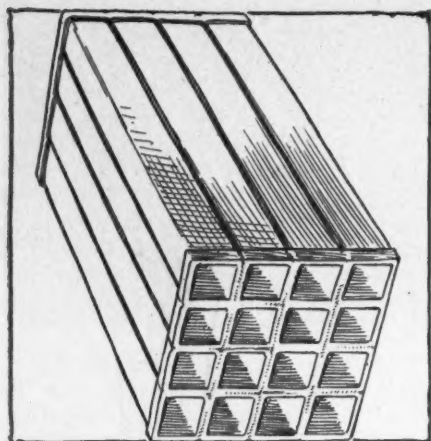
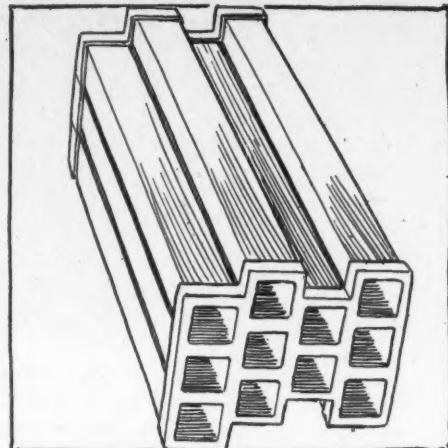
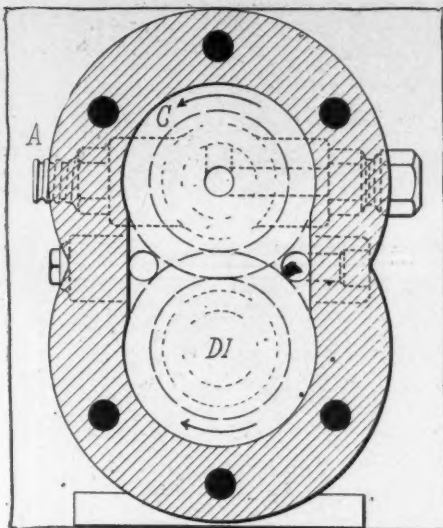

FIG. 7—LOCKPORT MERCEDES-STYLE RADIATOR
FIG. 9—LOCKPORT STAGGARD TYPE RADIATOR
FIG. 18—McCanna Distributing Gear Pump
**Fulton-Zinke-Hussey Parts Co.**—In addition to the general line of motor car and gas engine equipment handled by the Fulton-Zinke Co. in 1909, the Fulton-Zinke-Hussey Parts Co., known as the F-Z-H Parts Co., has taken on for the 1910 season the Lockport radiator, oilers and distributing gear pumps manufactured by the McCanna Mfg. Co., imported B. K. F. radial ball bearings, a full line of magnetos and Hussey lamp brackets. The Lockport radiators are of the genuine cellular or honeycomb type made in four distinct styles. Their important feature is their light weight and comparatively high cooling efficiency, brought about through the peculiar construction of the little square tubes employed. The construction of the old style Mercedes radiator manufactured by the Lockport company is illustrated in Fig. 7, and consists of a series of the square tubes assembled so that both the horizontal and vertical water spaces formed are in line. In the new Massive staggered type of radiator made by this company and shown in Fig. 9, it will be seen that there is a positive horizontal flow of water over the sides of the tubes as well as a vertical flow; and it is claimed that the increase in efficiency of the staggered over the Mercedes type of radiator is between 15 and 20 per cent. Both the staggered and the Mercedes type are made in two styles, known as the old style and the new Massive style, the only difference between the two being the impressive solidity of the soldering at the ends of the cells. This
is clearly shown in Figs. 7 and 9, Fig. 7 being of the old style and Fig. 9 of the new Massive style. Each tube of this radiator is made from a piece of flat copper sheet with a fold  $\frac{3}{32}$  inches wide at either end. This is then formed into a square tube and the seam double-creased and hand-soldered. It is by means of the double thickness at the ends of the tubes that the water spaces between them are formed when the tubes are assembled. Five types of oilers and a distributing gear pump are handled by this company, which are made by the McCanna Mfg. Co. The distributing gear pump, mechanically illustrated in Fig. 18, is of the type generally used on all circulating or self-contained systems. It is made with any number of leads, each of which is absolutely positive, so that no two leads are open at the same time, and the pump takes up no more space than a regular gear pump. The oil is taken into the pump through the regular inlet opening, A, is forced by the gears C and D through the channel, CA, cut in the cover into the hollow shaft HS, the openings of which register. This hollow shaft revolves, opening and closing the discharge ports, which are located in the sleeve around the shaft, and as the ports in the shaft and the discharge ports register, the oil is forced on to its destination. Of the five types of oilers three are intended for motor car use and one is manufactured exclusively for motor cycles. The first of the motor car oilers is type A, designed for use on the dash of the car. It is a multi-feed mechanically-driven type and feeds by suction from an auxiliary oil tank carried anywhere on the car. The discharge capacity of the pump is double the suction